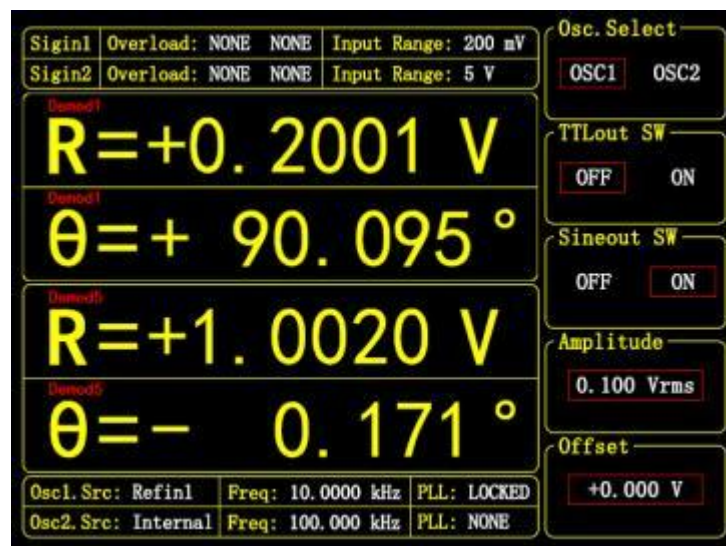

Figure 61. Menu When <Sineout SW> Is Opened
- <ON>: Open the Sineout output, where the amplitude and offset of the output sine wave can be set according to <Amplitude> and <Offset>, as shown in Figure 61.